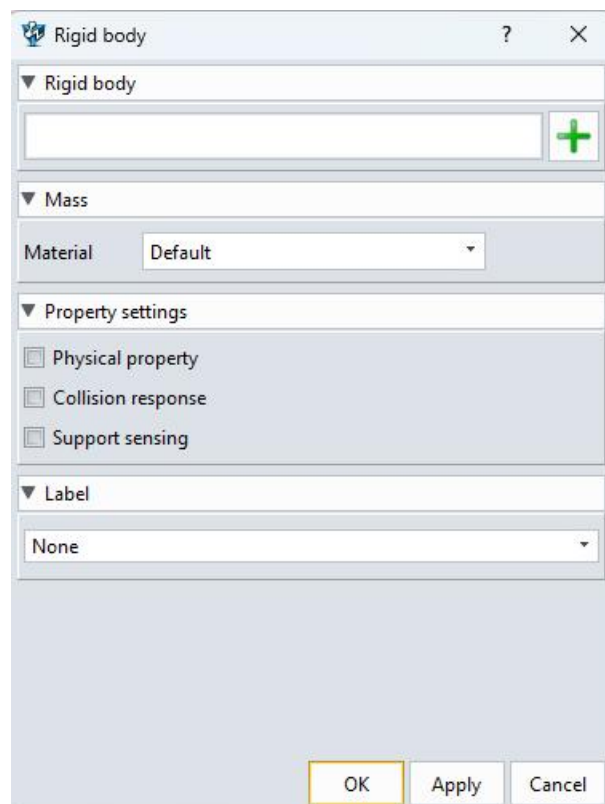

Figure 3-6: Rigid Body
- Physical property: make the rigid body have a mass effect and respond to forces. Collision response: Collision with the environment or other objects during task processing. Support perception: Objects support being perceived. (Figure 3-6)